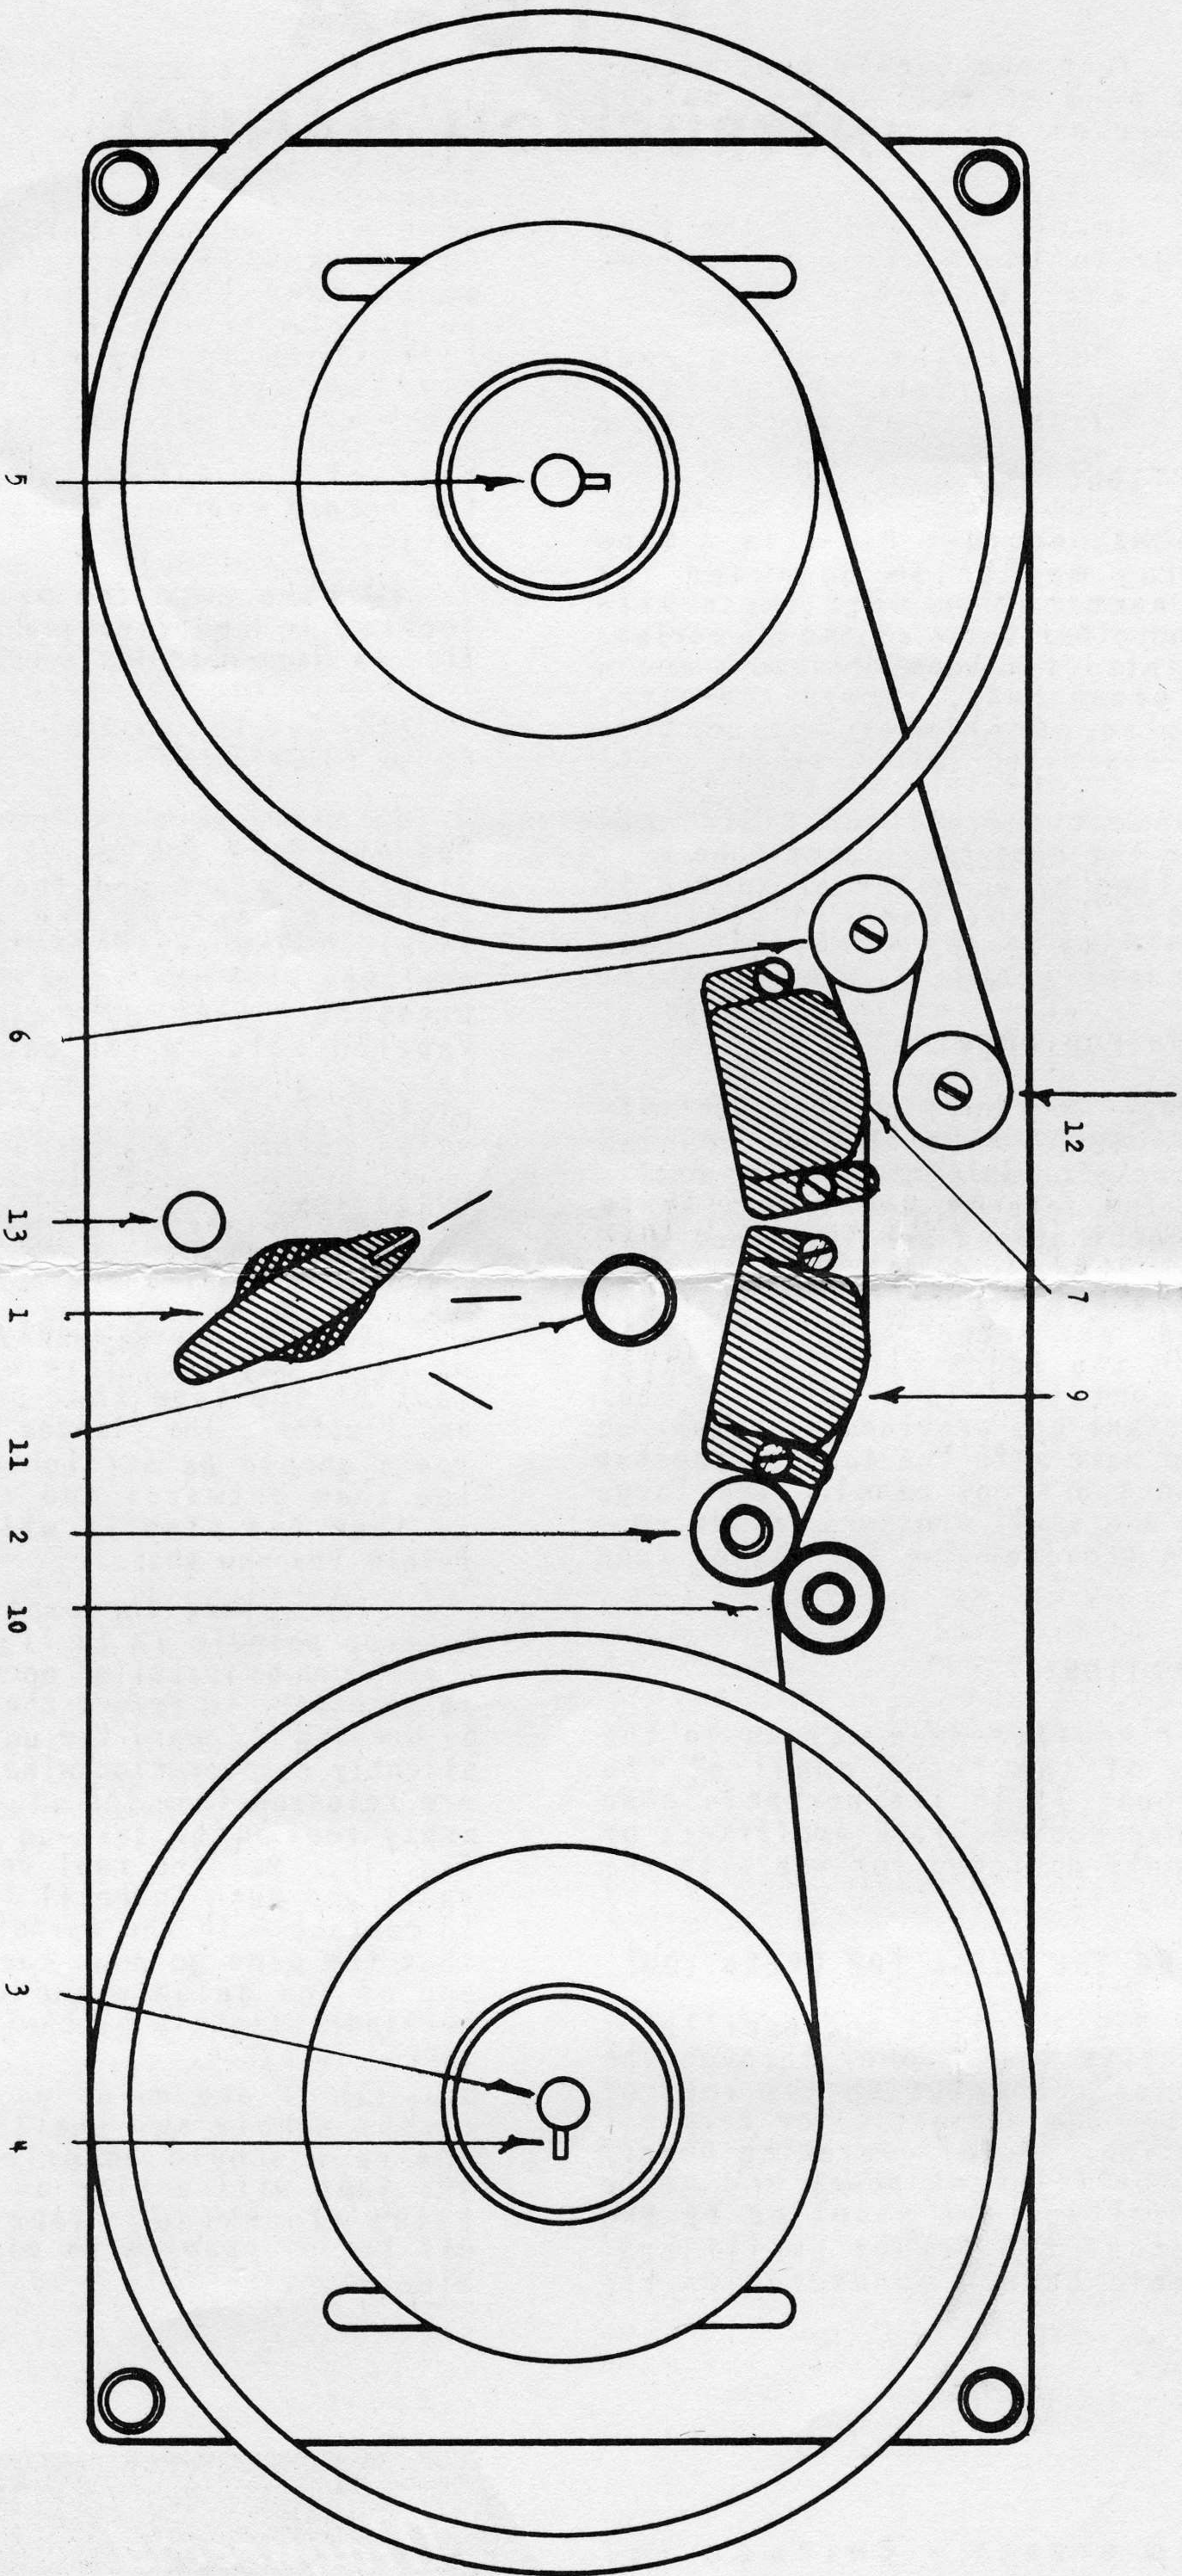

FIGURE 1
(1) Make sure the oscillator tube located in the rear and at the right side is secure in its socket.
(2) Set the control knob (1 in Fig. 1) to "STOP".
(3) Make sure the correct capstan and pressure roller (2 & 10 in Fig. 1) are in place and that the knurled retaining screws are screwed down firmly. The small (7½"/sec) capstan operates with the large rubber covered pressure roller. Make sure that the tapered hole in the capstan and the tapered shaped capstan shaft are completely free of dirt or foreign particles before installing the capstan.
(1) Place the empty reel on the take-up spindle (3 in Fig. 1). Before a reel can be installed on the spindle it is necessary to remove the reel retainer by pushing it toward the unit and turning slightly counter-clockwise until the pins are released from the slots. Place the empty reel on the take-up spindle (3 in Fig. 1). Put the reel retainer on the shaft and push in until the 3 pins are in contact with the spindle. Make sure that the pins go down the slots in the end of the spindle and then turn the retainer slightly clockwise until it is locked in place.
(2) Place a loaded reel of tape on the supply spindle (5 in Fig. 1). The reel should be oriented so that the tape will unwind as the reel rotates clockwise. Tape should come off top of spool with coated, or dull side down.
(3) Turn the supply reel clockwise by hand so that approximately 18 inches of tape or leader will unwind.
(4) Insert the end of the tape or leader in the slot on the inside of the take-up reel.
(5) Rotate the take-up reel clockwise until there are at least two full turns of tape on the reel.
(6) Slip the tape into its normal travel path; under the idler (6 in Fig. 1); over the erase head (7 in Fig. 1); over record-reproduce head (9 in Fig. 1); between capstan (2 in Fig. 1) and pressure roller (10 in Fig. 1).
(7) Rotate take-up reel to remove slack.
(8) Connect the unit to the Magrecorder PT6 amplifier. Note: If the PT6-A is to be used with some other amplifier, 117 volt 60 cycle AC must be supplied to the motors; and filament power at 6.3 volts .3 amperes and plate supply of 300 volts at 40 ma must be supplied to the oscillator tube. See schematic.
(9) Turn the control knob to "FORWARD". This puts the unit into forward operation at a speed determined by the capstan being used. If the tape does not move smoothly between the capstan and pressure roller, lift the pressure roller slightly to permit the tape to align itself properly.
(10) To rewind the tape, turn the control knob to "STOP", then place tape over lift bar so that the tape is lifted clear of the heads. Turn the control knob to "REWIND". The rewind mechanism, driven by a shaded pole motor, will completely rewind 1200 feet of tape (full 7½" reel) in approximately 40 seconds. The loaded reel will rotate at an increasingly higher speed as the tape is transferred back to the supply reel during rewind. The control knob may be turned to "STOP" at any time during rewind without danger of tape throw. Be sure that the tape is lowered to its normal position on the heads before attempting to record or reproduce.
(11) The bias indicator light (11 in Fig. 1) will glow when the oscillator tube plate supply voltage is applied through the Jones male connector. If the PT6-A is being used with any of the Magnecord PT6 Series amplifiers, the light will go on when the amplifier Selector Switch is turned to "RECORD". An inter-lock in the PT6-A will turn off the oscillator and the lamp whenever the PT6-A control is turned to "STOP" or "REWIND". See schematic.
The bias indicator lamp (II in Fig. 1) will glow when plate supply voltage is being supplied to the oscillator tube. This indicates that any previous recording on the tape is being erased and a new recording may be made.